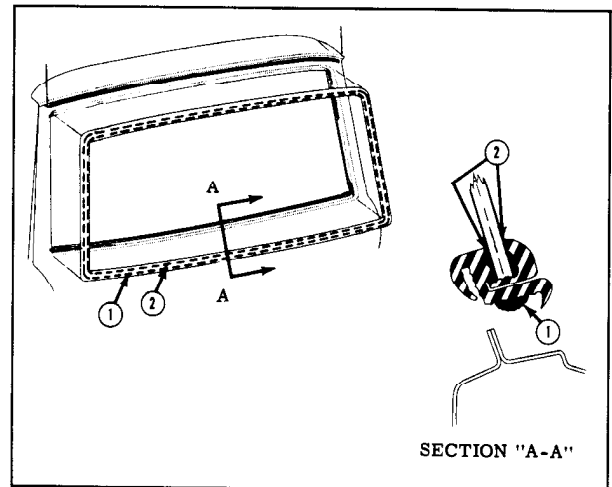

Fig. 15-59 Back Door Window Sealing
4. Apply a continuous ribbon of medium-bodied sealer (approximately 1/4" thick) to base of rubber channel, as indicated at "1" in Section "A-A", Fig. 15-59, completely around rubber channel.
7. Using a pressure type applicator, apply weatherstrip adhesive (black) between rubber channel and glass on inside and outside of glass, as indicated at "2" in Fig. 15-59, completely around glass and rubber channel. Application of adhesive should be continuous with no skips.